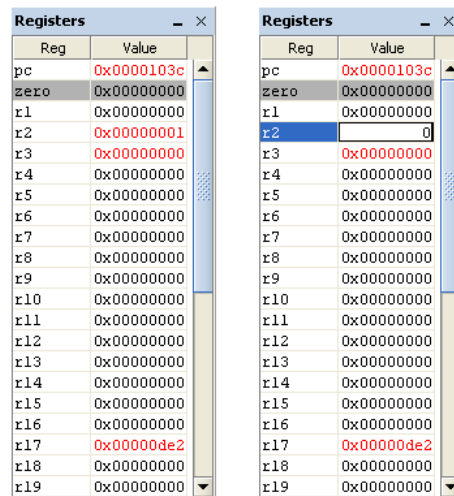

Figure 29. Register values after the breakpoint trigger; editing the value of the `r2` register.
4. The **Registers** window should look similar to the left image of Figure 29. To edit the value of the `r2` register, which controls the scroll direction, double click on its value in the window. This will bring up a text box, as shown in the right image of Figure 29, and you can put in its new value of 0.